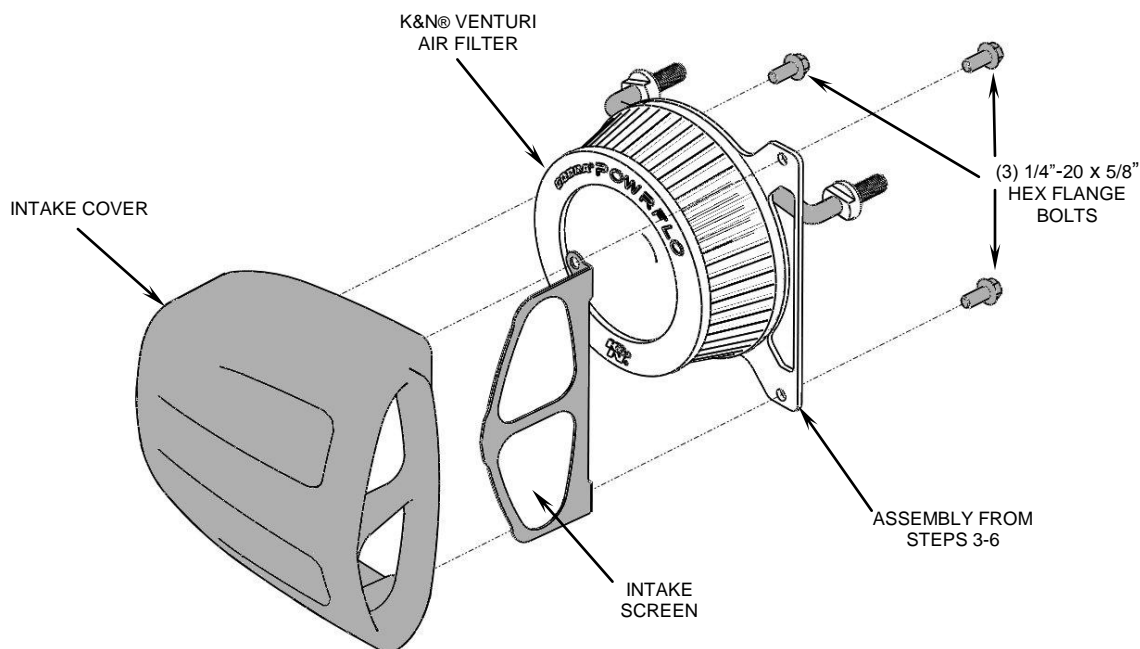

FIGURE 2
5. Insert the breather bolts into the cylinder heads and full tighten. Now snug the (3) buttonhead bolts evenly, and then fully tighten them to the throttle body.
8. Place the intake cover over the air filter and align threaded bosses with the mounting plate holes. Insert the (3) supplied 1/4"-20 x 5/8" hex flange bolts through the mounting plate, intake screen and into the intake cover then tighten. See Figure 2.